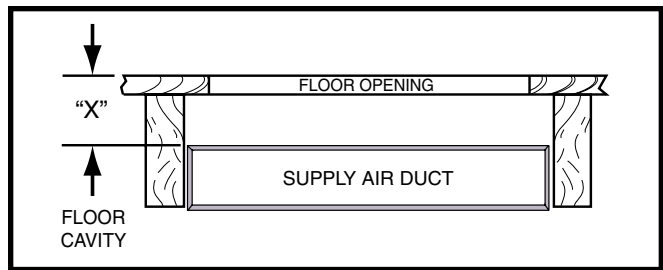

Figure 9. Floor Cavity
4. Measure from the top of the floor down to the top of the supply air duct to obtain the depth of the floor cavity. **NOTE:** The depth of the floor cavity shown as "X" in Figure 9 \(page 9\) will determine the correct duct connector.